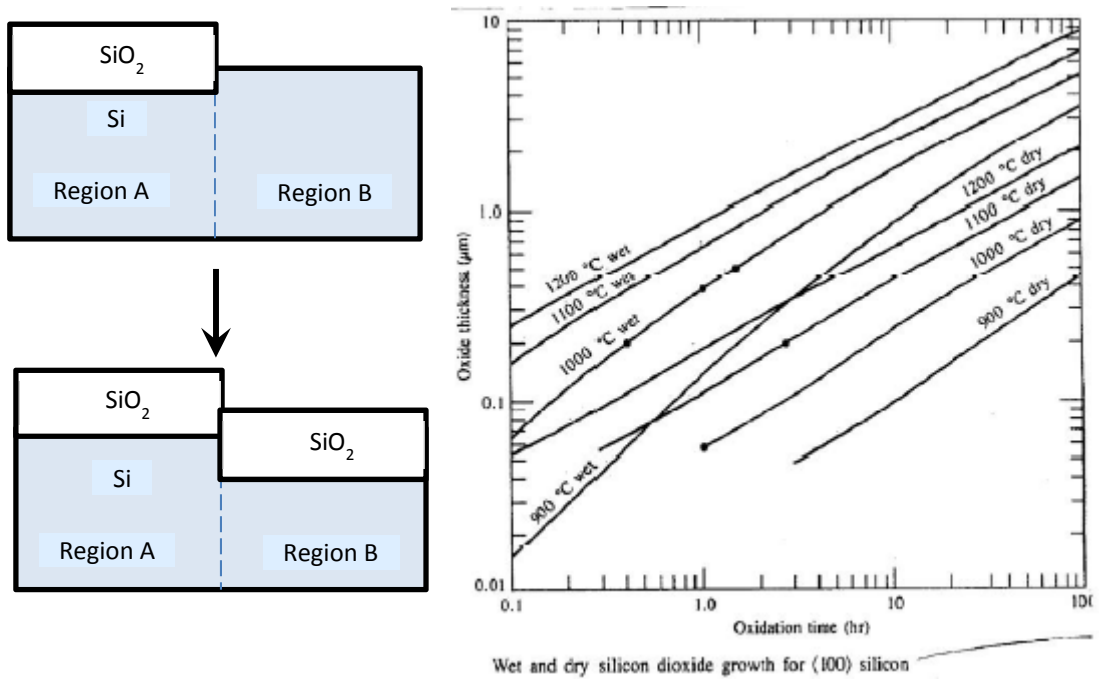

Figure Q4[c]
- [c] As shown in Figure Q4[c] left, a bare Si (100) wafer is oxidized for 1 hour at temperature 1100°C in dry O_2 . It is then photomasked and has the oxide removed over half of the wafer. The whole wafer is then re-oxidized in steam at temperature 1000°C for 30 minutes. Use the oxidation charts in Figure Q4[c] right to estimate the final oxide thickness in Region A and Region B.**